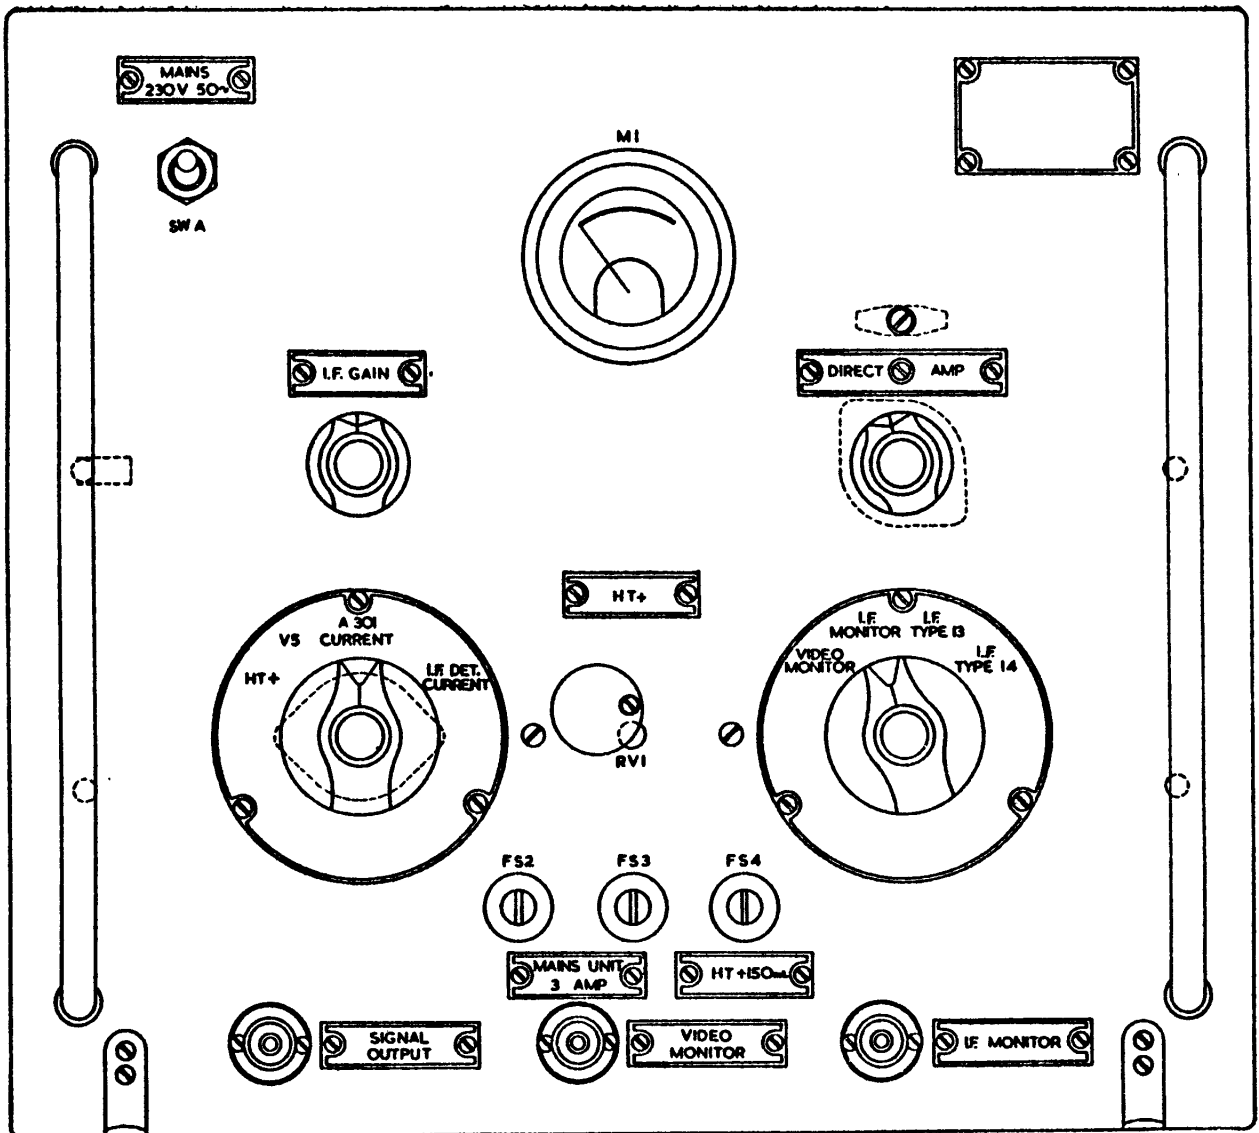

Fig. 1. Switch unit 4729—Front panel
3. The self-contained power pack, operating from a 230V 50 c/s supply, provides all heater requirements and a stabilized 300V output for HT supply. There are facilities for measurement of HT voltage and valve currents on a built-in meter. A diagram of the front panel is given in fig. 1, plan and under-chassis views of the chassis being given in fig. 2 and fig. 3 respectively.